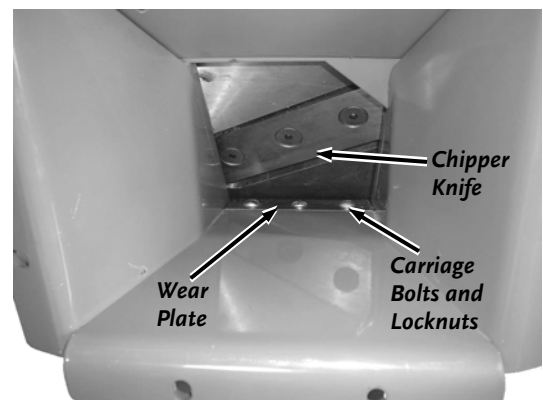

Figure 42
1. To adjust the Wear Plate Gap, loosen the three Nuts on the Carriage Bolts with a 7/16" wrench just enough so the Wear Plate will move but still have a slight resistance. Now you can slide the Wear Plate up or down (in or out) to achieve the correct gap setting (**Figure 42**).